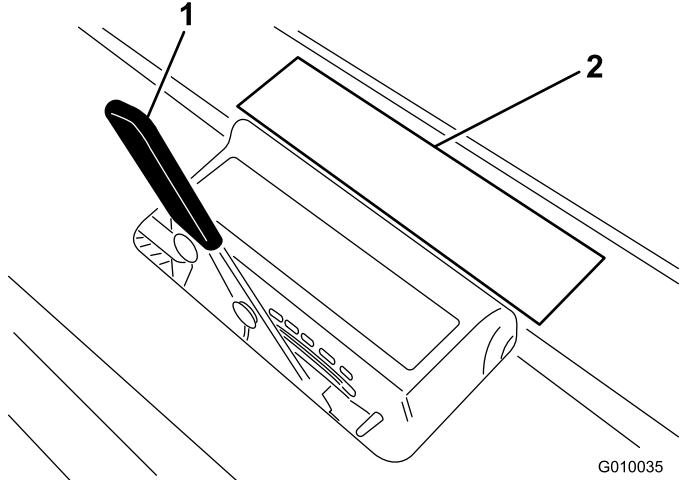

Figure 28
2. Lay the tine on the tine depth decal (Figure 28) with one end lined up with the desired depth of aeration (refer to the tine overlay on the decal).